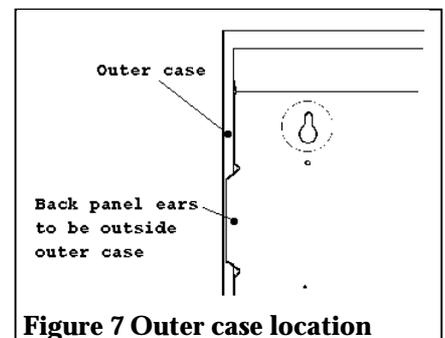

Figure 7 Outer case location
4.6.2 Re-locate the outer casing assembly over the fire. Make sure that the supporting ears on the back panel are outside the rear of the outer case (See figure 7.) Re-fit the screws in the bottom sides of the casing.